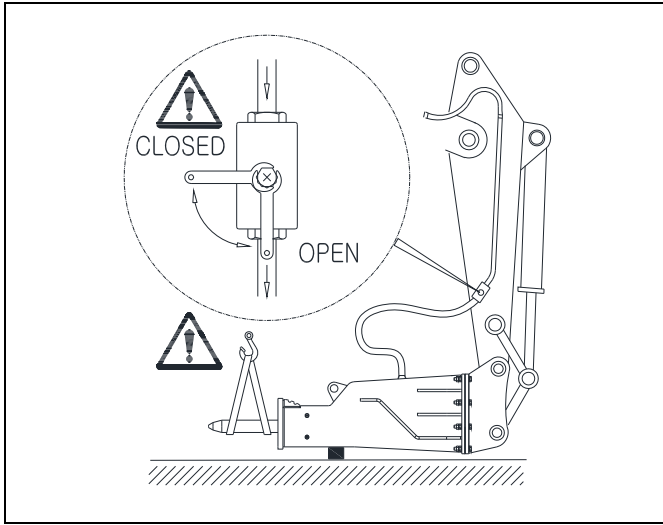

Fig. 10-3 Close Valves, Elevate, Support Tool
1. If attached to the carrier, lower the breaker and position horizontally on a stable and level surface. Allow access to the large retainer (B) from below. Use adequate load bearing device to support weight of breaker.
2. Stop the engine and apply the parking brake. Enable the hydraulic interlock. Close shut off valves [Fig. 10-3].
2. If attached to the carrier, close shut off valves [Fig. 10-3].